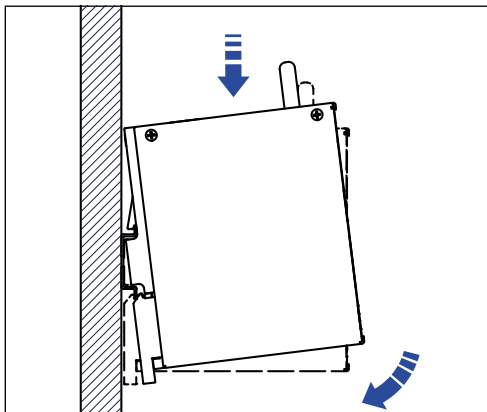

Fig. 3: Installation of the gateway of the standard rail
1. Plug the gateway onto the 35 mm standard rail and snap it onto the DIN rail (Fig. 3).